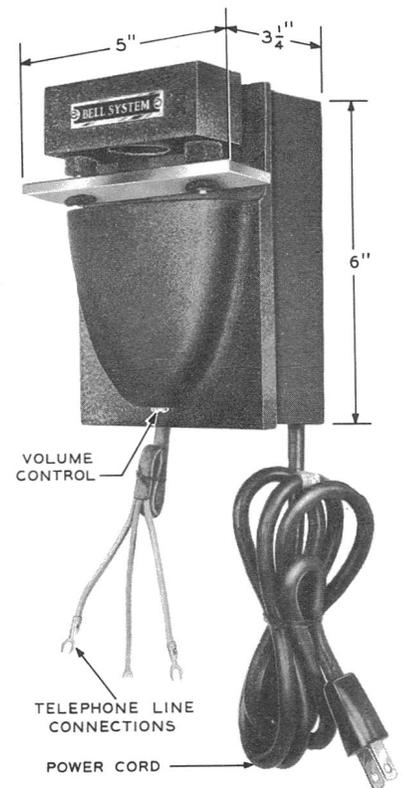

Fig. 11 – KS-8229 Signal Chime
4.06 The volume of the KS-8229 chime signal may be adjusted by a screw (see Fig. 11). No other adjustment should be made. Should the plunger stick in its guide, remove plunger and clean with mineral spirits. If this does not correct operation, replace signal.